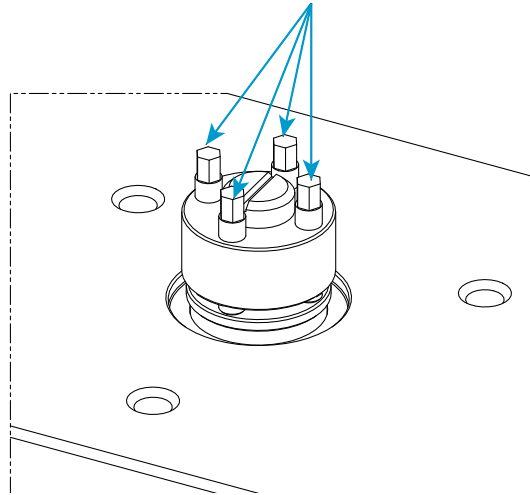

Figure 20. Mechanical tensioner assembly
10. Use the torque wrench (80-9-11) with the matching 5 mm hex drive socket (67-4-29) supplied in the mechanical tensioner kit to tighten the four set screws (shown in Figure 20) on the mechanical tensioner to 14 N-m (10.3 ft-lb) according to the following procedure: